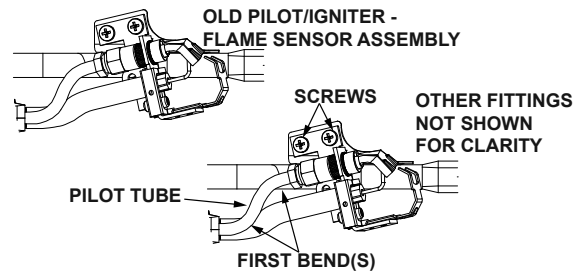

FIGURE 27.
4. Pull the pilot tube from the pilot assembly (Figure 27). **IMPORTANT:** Be careful not to bend or alter the position of the pilot assembly components.
7. Push the new pilot tube and igniter wire through the hole in the manifold door (See Figure 27). Reconnect the pilot tube and tighten the nut securing it to the pilot assembly.